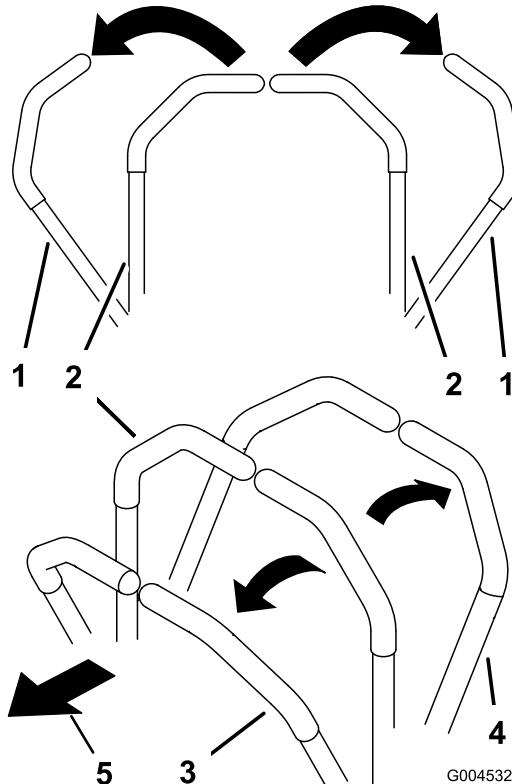

Figure 21
1. Move the control handles to the neutral-locked position (Figure 21).